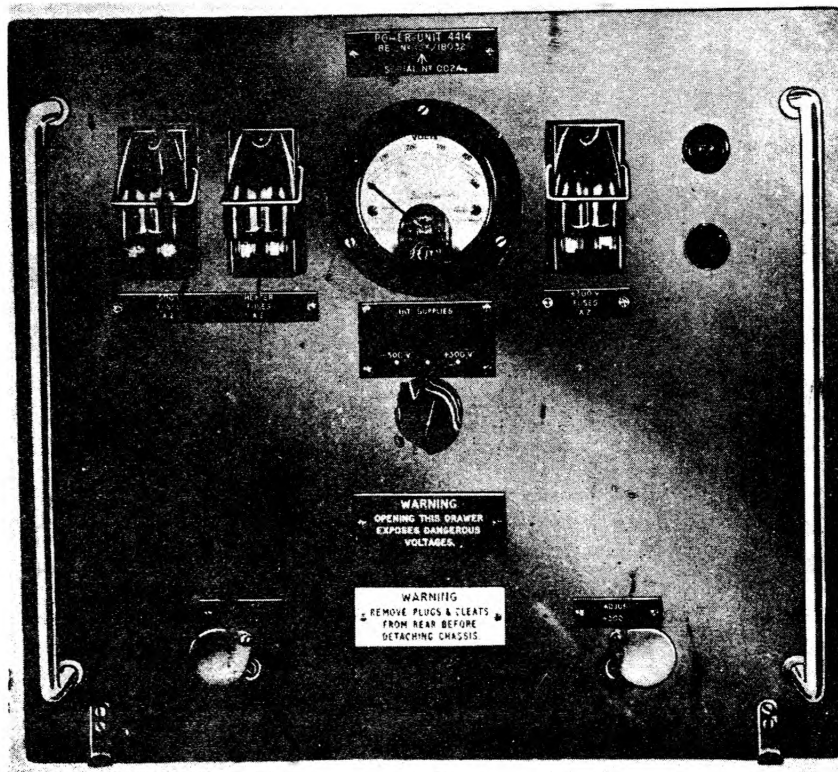

Fig. 1. Power unit 4414 : front view
1. Two stabilized supplies, one positive and one negative are provided by power unit 4414 (fig. 1, 2, and 3) for trigger unit 4413. The negative supply (-500V) is available earlier than the positive supply after switch-on. The two outputs are monitored by the inclusion of a panel-mounted voltmeter with a selector switch. The unit is situated underneath the trigger unit in rack assembly 4411 in the radar office. It should be noted that the unit has no ON-OFF switch. The OFF position of the meter selector switch